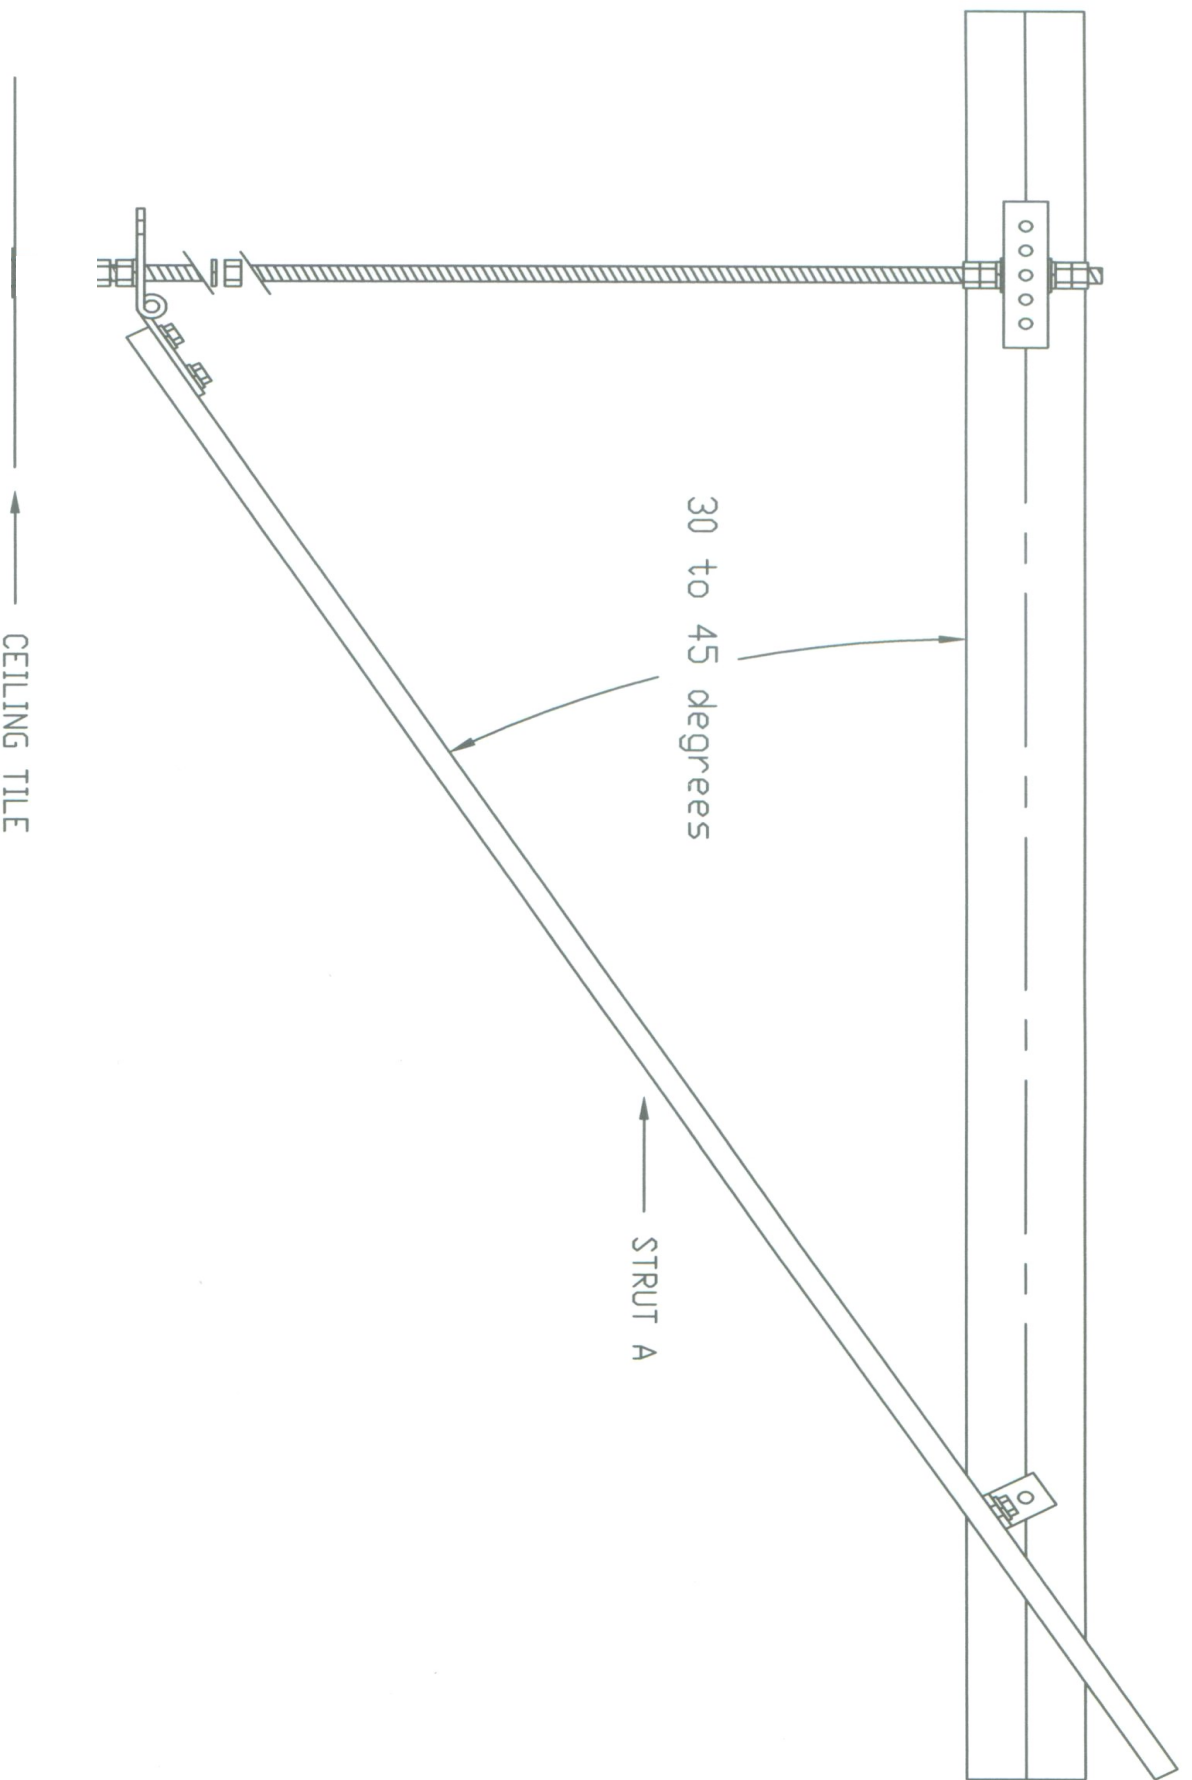

Figure 2
- Position the tube against the joist where you want the suspension point *making sure that it is level and centered on the joist* (see fig. 2). Mark the outside holes on each end of the tube on the joist. Remove the tube and drill a 3/8" hole through the joist at each mark. Put a 3/8" flat washer on each of the two 3/8" x 4" bolts. Put the bolts through the holes in the tube then through the drilled holes pushing the tube against the joist. Put a 3/8" fender washer then a 3/8" lock washer on the threaded ends of each bolt. Start a 3/8" nut on each bolt and tighten securely. Tighten the nuts enough to compress the lock washer but do not deform the square tube.